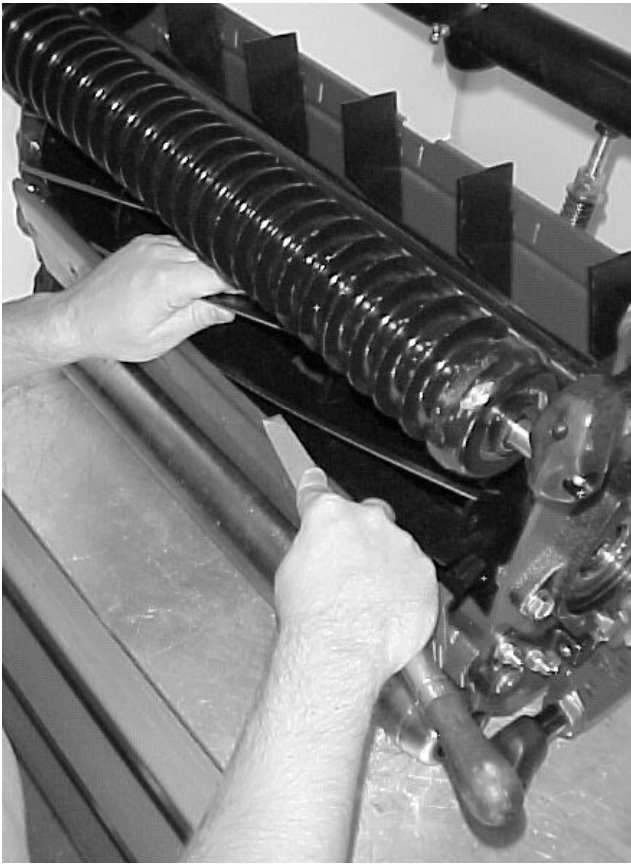

Figure 73
11. When the cutting unit is adequately sharpened, a burr will form on the front edge of the knife. Using a file, carefully remove the burr without dulling the cutting edge (Fig. 73).